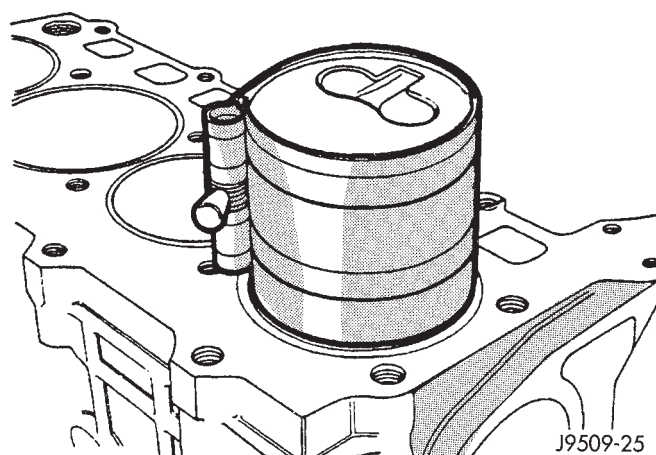

Fig. 49 Installing Piston
(3) Immerse the piston head and rings in clean engine oil, slide the ring compressor, over the piston and tighten with the special wrench (Fig. 49). **Ensure position of rings does not change during this operation.**